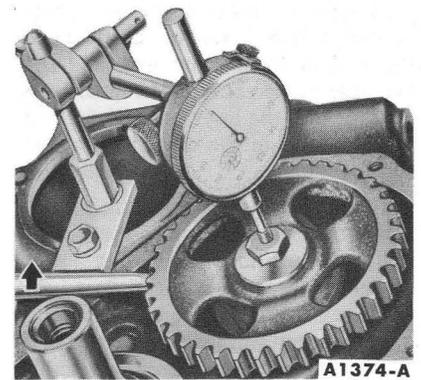

FIG. 57—Camshaft End Play
15. Push the camshaft toward the rear of the engine. Install a dial indicator so that the indicator point is on the camshaft sprocket cap screw (Fig. 57). Zero the dial indicator. Position a large screw driver between the camshaft sprocket and the block. Pull the camshaft forward and release it. Compare the dial indicator reading with specifications. If the end play is excessive, replace the thrust plate.